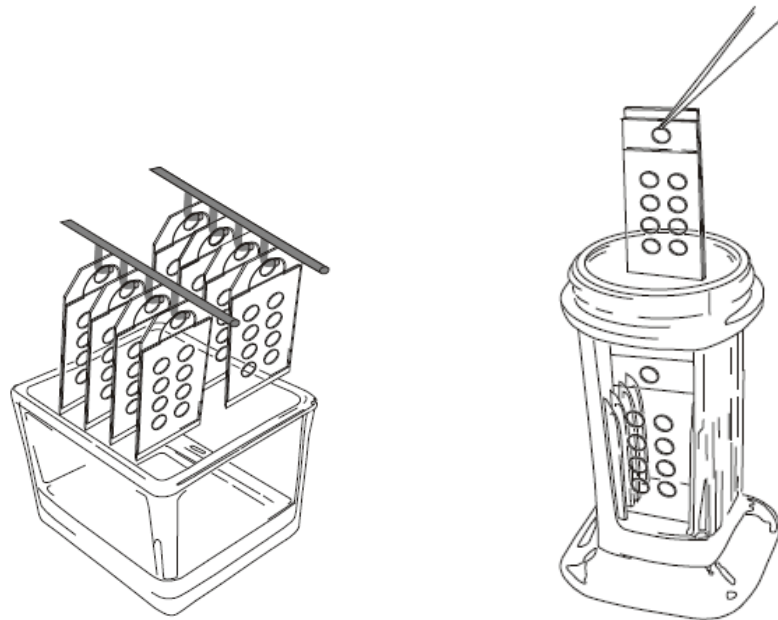

Figure 8
- Coverslips are removed with the silicone gasket still attached to provide stability and protection from breakage. Figure 8 shows how individual gasketed coverslips may be placed in coplin jars or any other holder designed for standard microscope slides.